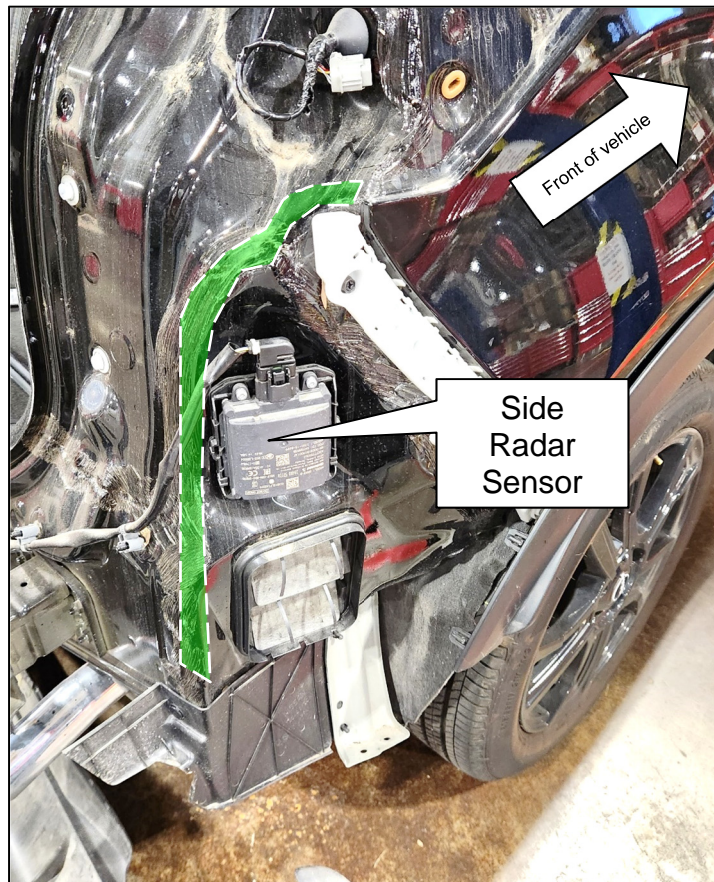

Figure 1
1. Clean the area shown in Figure 1 with isopropyl alcohol.